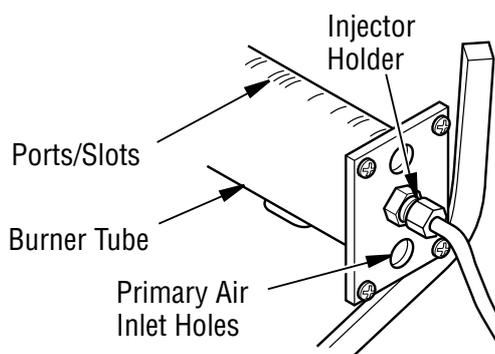

Figure 50 - Injector Holder On Outlet Burner Tube
2. Inspect burner, pilot, and primary air inlet holes on injector holder for dust and dirt (*see Figure 50*).